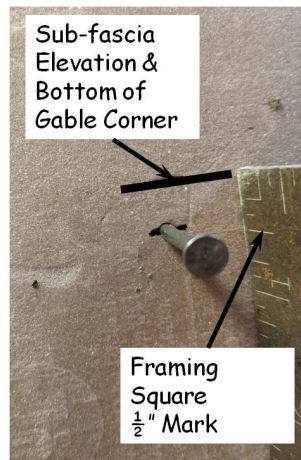

Figure 11-1. Siding Layout.
2. At each corner on the eave sides of the house, use a framing square to transfer the elevation of the bottom of the sub-fascia to the wall as shown in Figure 11-1. With the blade (long leg) firmly against the wall, slide the square up until the tongue (short leg) contacts the bottom of the sub-fascia, and make a mark on the wall at the top of the square (this will be the **sub-fascia elevation and bottom of the gable corner blocking**) and $\frac{1}{2}$ " below the top of the square (this will be the **top of the siding corner, or bottom of the soffit**). Drive an 8d nail into the corner stud at the vertical center of the $\frac{1}{2}$ " mark.